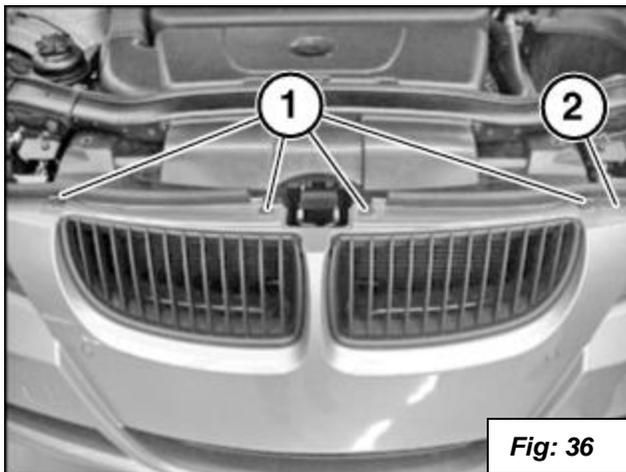

Fig: 36
47. Fasten the top screws (1) as shown in **figure 36** and the side screws (2) as shown in **figure 37**.